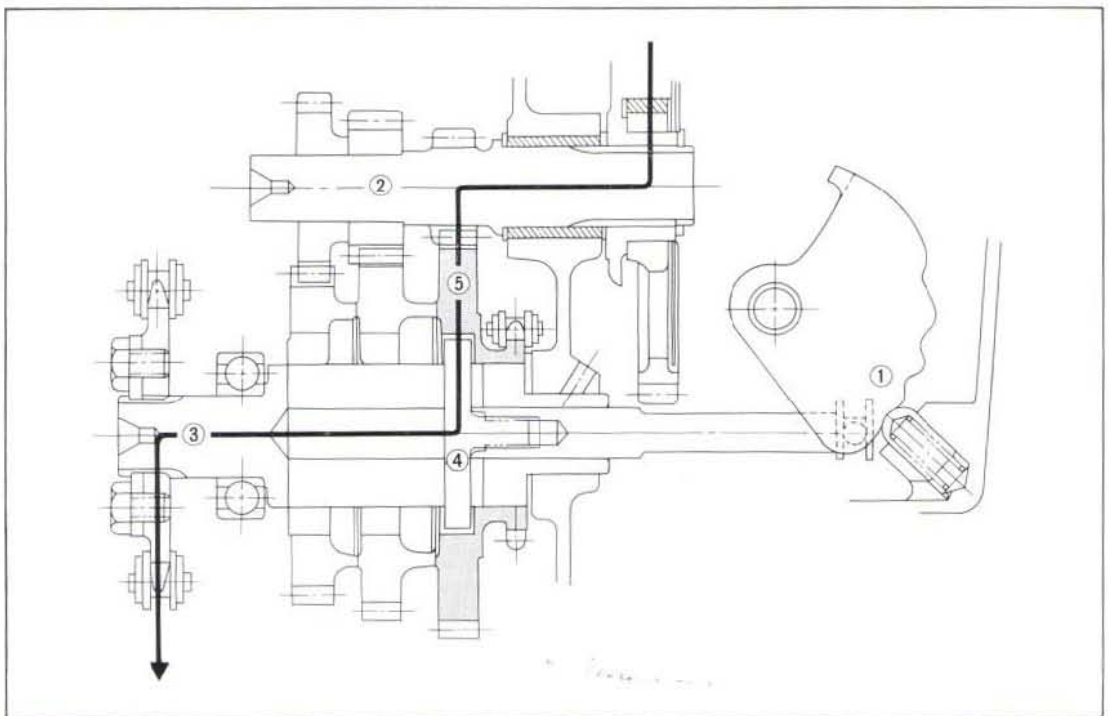

Fig. 3.59 Low gear
The gear shift arm is in position ① shown in Fig. 3.59, the gear change pawl is engaged with the countershaft low gear.